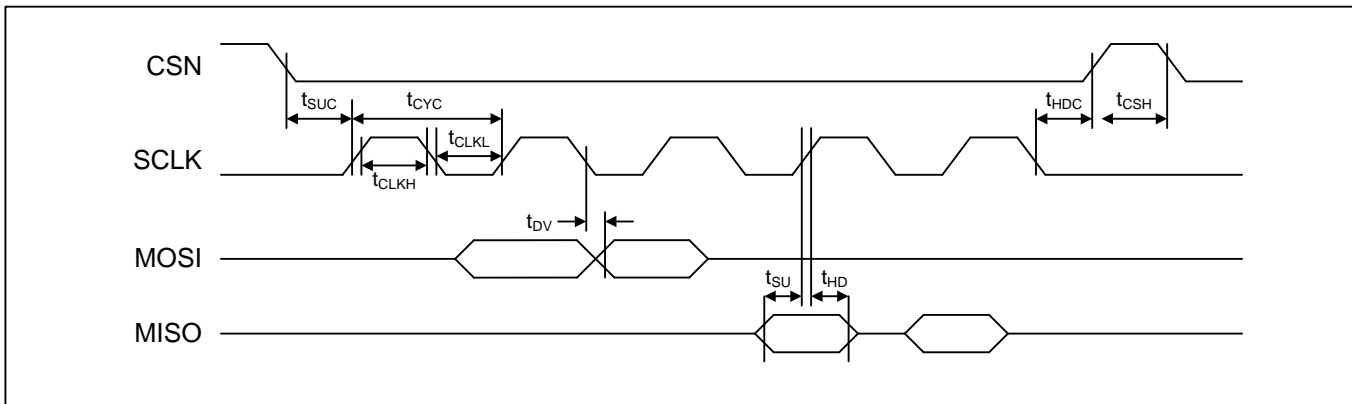

Figure 27 - SPI Master Interface Timing
- Note 3:** See timing diagram in Figure 27.